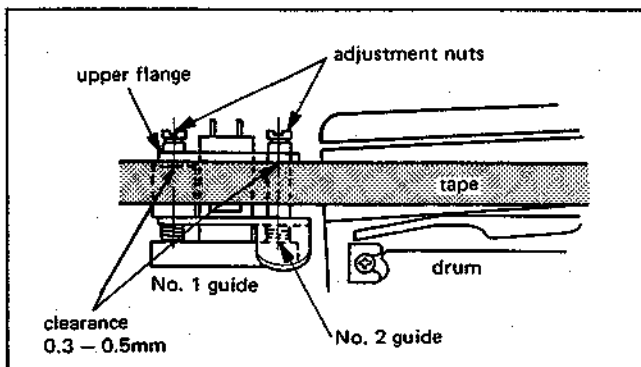

Fig. 2-7
- 1) Turn the No. 1 and 2 guide adjustment nuts counterclockwise, while observing with a dental mirror, so that the clearance between the upper flange and the tape is 0.3 - 0.5mm. (Fig. 2-7)